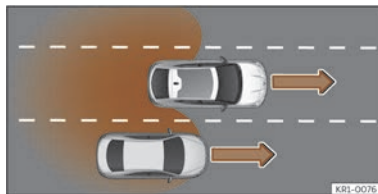

Fig. 146 Overtaking in the central lane and then joining the right lane.
- When overtaking another vehicle >>> **Fig. 146** with a speed difference of approx. 10 km/h (6 mph). If the vehicle is passing at a considerably higher speed, no indication will be displayed.